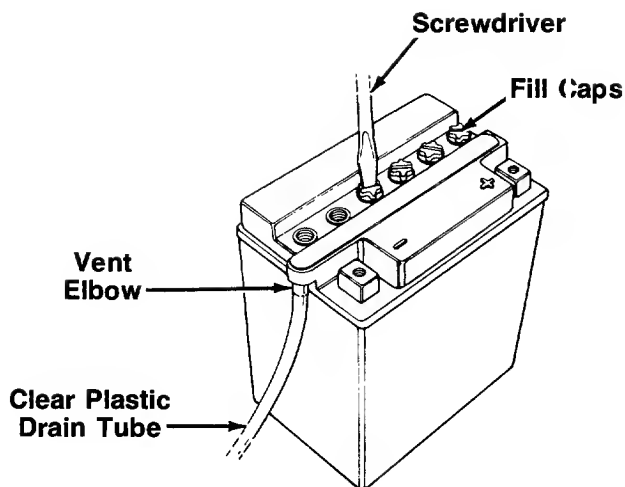

FIGURE 2.
4. Remove the six fill caps from the top of the battery with a screwdriver. Be careful not to damage the fill caps. See figure 2.